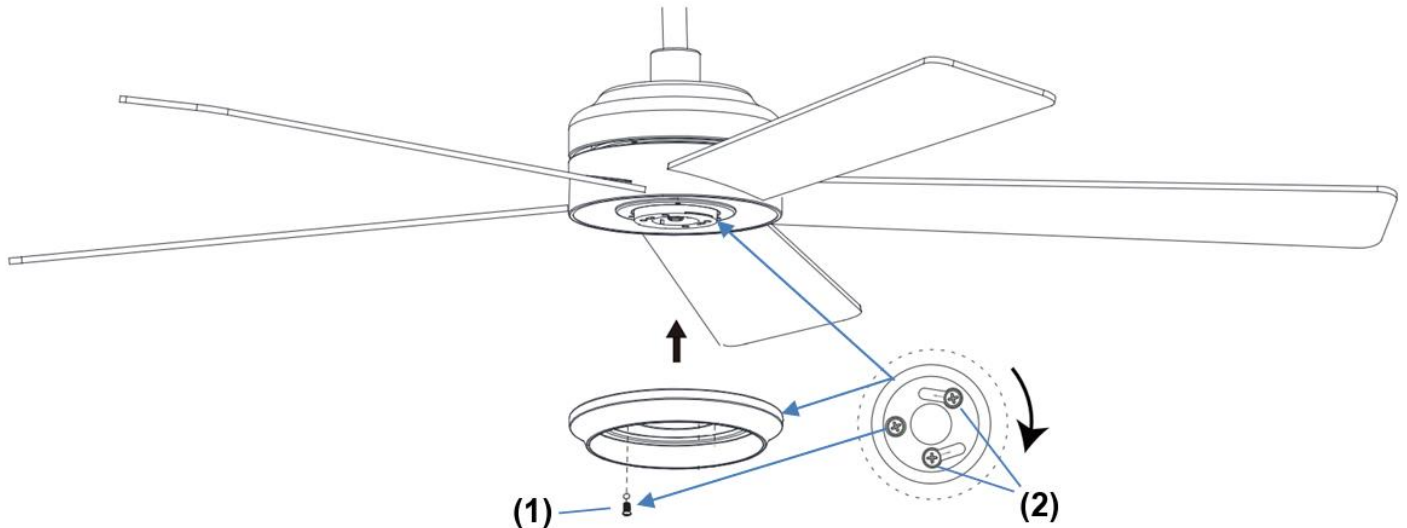

Fig. 7
**INSTALLATION OF LIGHT KIT (Fig. 7)**
1. Loosen the screw (1) from the fan bracket. (Fig. 7)
2. Align the two slot screws with the keyhole slots (2) of the light kit plate. (Fig. 7)
3. Turn the light kit plate counterclockwise until the slot screws are firmly at the end of the slots (2).
4. Secure screw (1) to the light kit plate. Tighten all three screws. Do not over-tighten.